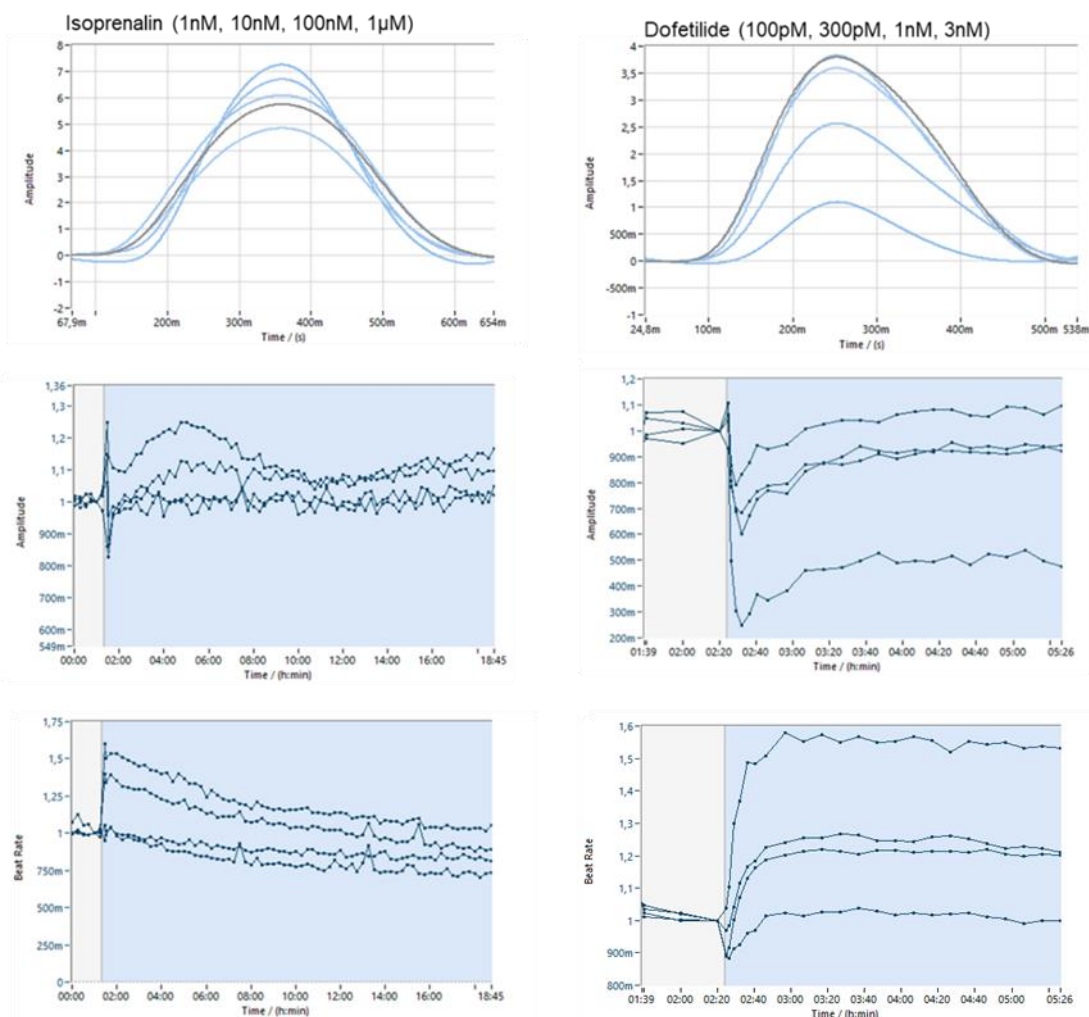

Figure 4. Responses of Cardiosight®-S cardiomyocytes to compound application recorded on FLEX96.
6. The representative traces of FLEXcyte 96 for control and compound conditions using Cardiosight[®]-S are shown in Figure 4.